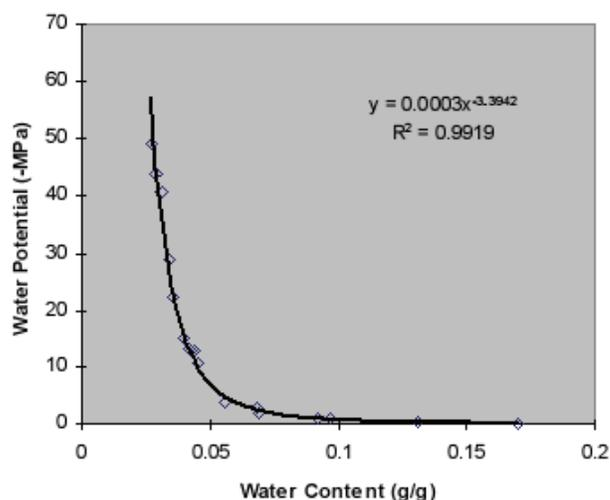

Figure 1 Sample moisture release curve for Walla Walla silt loam using the WP4C Dew Point PotentialMeter*
9. The resulting data can then be plotted in a spreadsheet as shown in Figure 1.